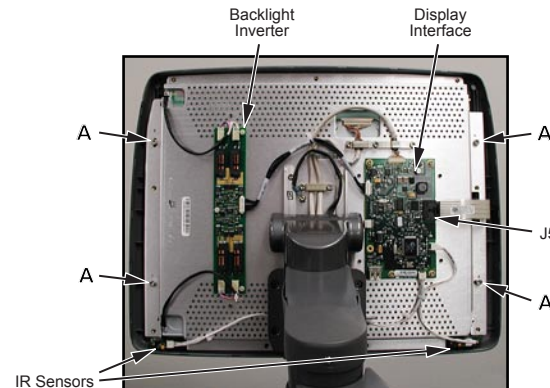

Figure 3-10 Display Assembly With Rear Panel Removed
- 12.2 Remove rear panel from display. Several display panel components are now exposed (see Figure 3-10).
- 13.2 Disconnect cable from J5 on Display Interface PCB (see Figure 3-10).
- 13.4 With one hand securing front display panel to the frame, remove four setscrews securing display panel (screws are labeled A in Figure 3-10). Carefully remove panel and touch screen from frame.